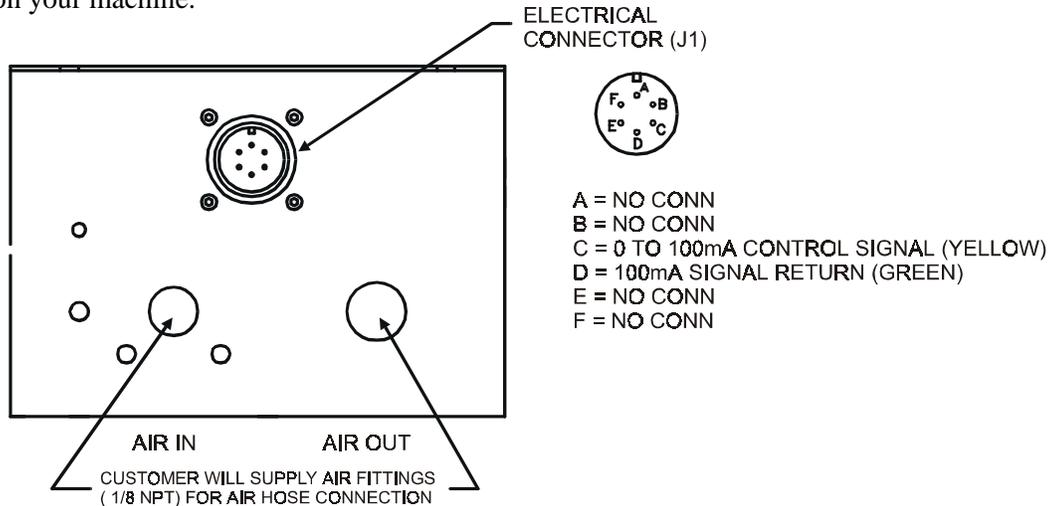

Figure 10 - CONNECTIONS FOR REMOTE PNEUMATIC ASSEMBLY
2. Make your single transducer connection to the terminal block labeled "XDUCER", positions 1 (EXC +), 2 (EXC -), 3 (SIG +) and 4 (SIG -). For the Dual Transducer option use , see Fig. 10)